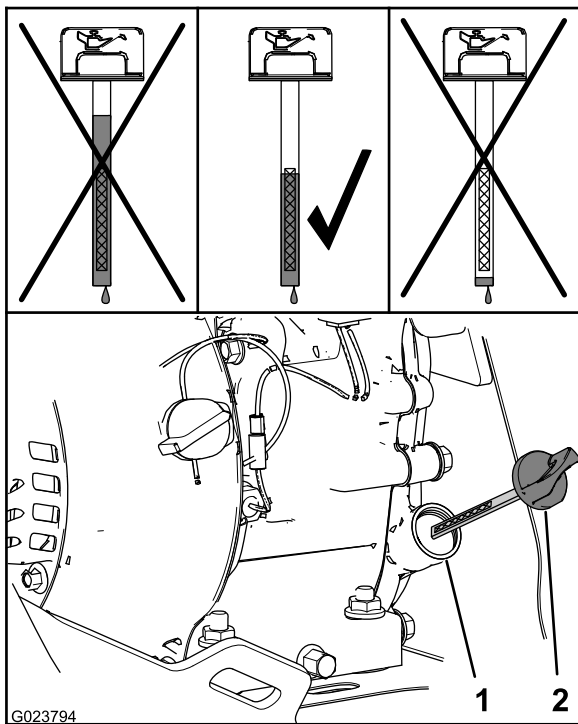

Figure 25
- Remove the dipstick and read the oil level (Figure 25).
Note: The oil level should be at top of the indicator on the dipstick (Figure 25).
- A. Pour the specified oil into the filler neck (Figure 25).